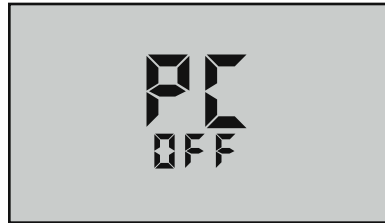

Figure 26
2. Press and HOLD  key until the menu “PC OFF” appears (see Figure 26).